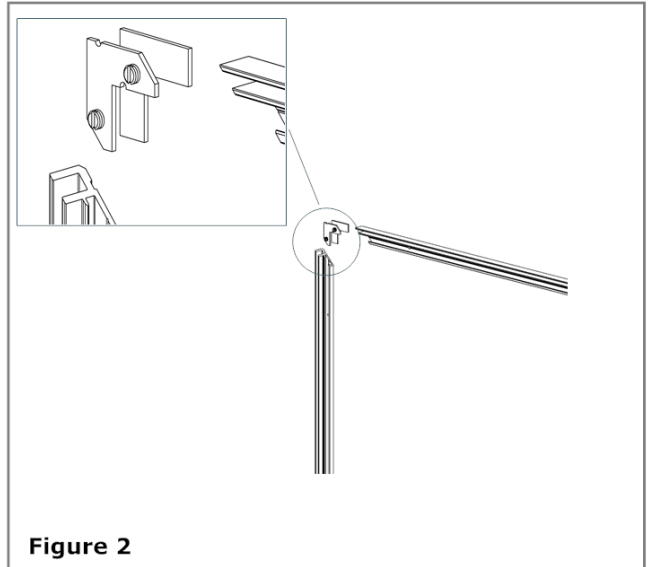

Figure 2
2. Slide a corner bracket assembly into each end of the two vertical frame extrusions and turn the setscrews so that the corner bracket assembly are held in place within the extrusion channel. Do not fully tighten yet. (each corner bracket assembly consists of a plain bottom bracket and a top bracket with setscrews) See **Figure 2**.